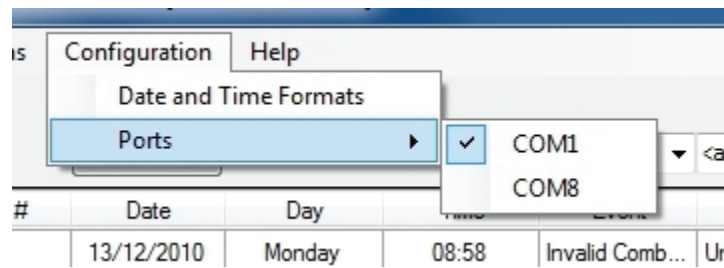

Figure 5
3. Select **Ports** from the drop down menu (Figure 5). The list of available COM Ports will be displayed.
4. Select the appropriate COM port from the list (Figure 5). For a USB Adapter select the virtual COM Port assigned by the system. For a Serial Adapter select the standard Serial COM Port to be used.